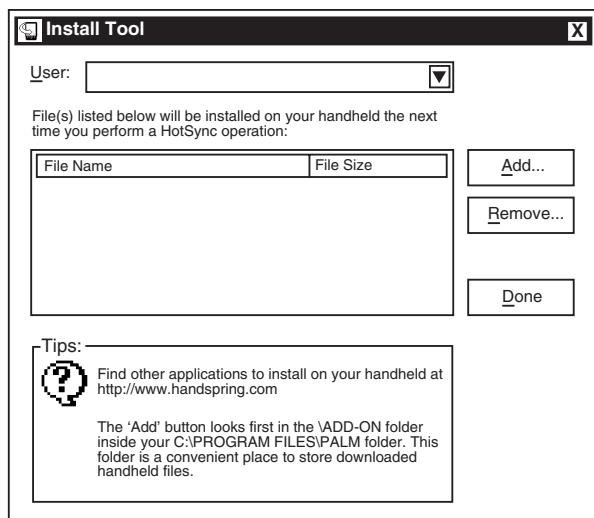

Figure 2-13 M-3811A IPScom® for Palm OS® Download Directory
4. Verify the file M-3811APalm.prc is displayed in the download directory (Figure 2-13), then select **Done**.